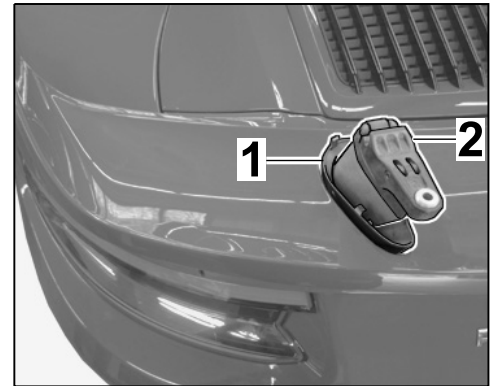

Figure 19
- 5.2 Guide cap (at the left ⇒ *Figure 19*/right) over each spoiler drive hinge.